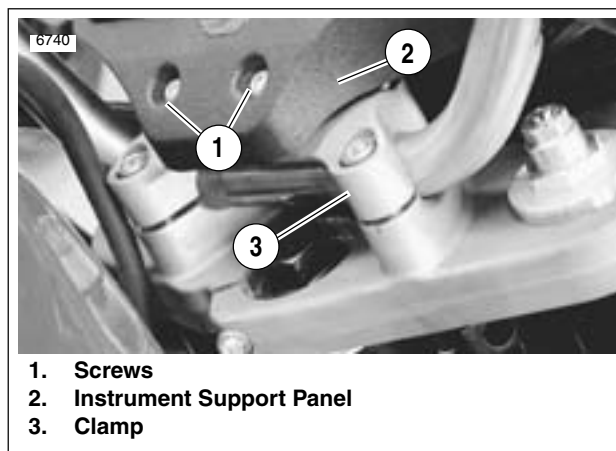
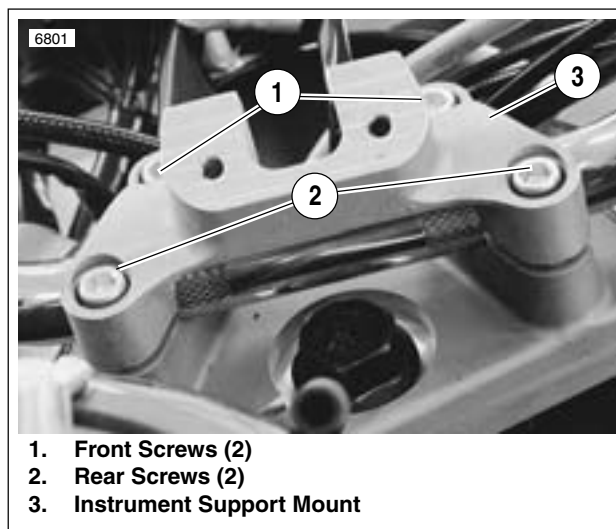
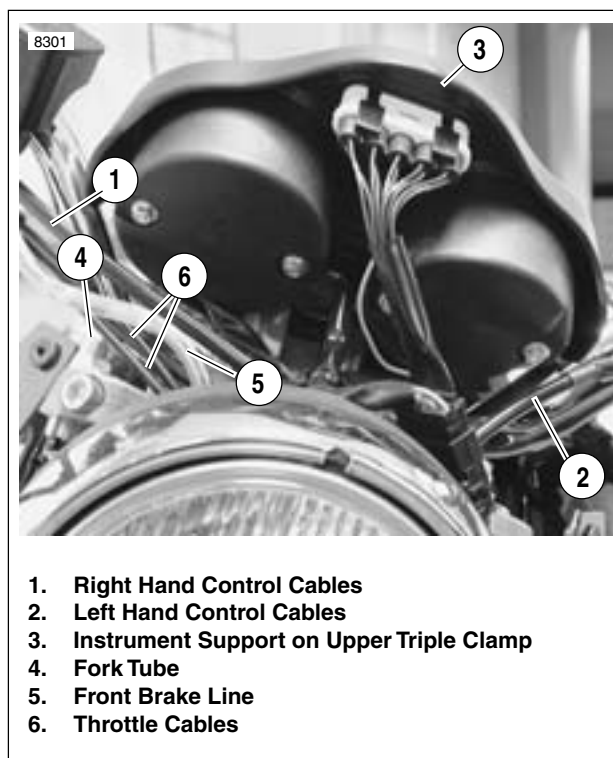

Figure 2-92. Instrument Support, Front
Figure 2-93. Instrument Support Mount
Figure 2-94. Routing Hand Control Wires
- b. See Figure 2-92. Separate instrument support panel (2) from handlebar clamp (3) by removing two screws (1). Pull dash panel upward, but do not damage wiring.
2. See Figure 2-93. Remove two front screws (1) and two rear screws (2) to separate instrument support mount (3) from upper triple clamp.
1. See Figure 2-93. Fasten instrument support and handlebars to support using two front screws (1) and two rear screws (2). Do not tighten.
- b. First tighten the two front screws (1) to 10-12 ft-lbs (14-16 Nm).
2. See Figure 2-92. Attach instrument support panel (2) to handlebar clamp (3).
- a. Apply LOCTITE THREADLOCKER 243 (blue) to both screws (1).
- b. Align instrument support on handlebar clamp. Install two screws (1).
6. See Figure 2-93. Remove four screws (1, 2) from instrument support (3).
- a. See Figure 2-93. Lift instruments and place handlebars under instrument support. Loosely install four screws (1, 2).
- b. See Figure 2-93. Tighten both front screws (1) to 10-12 ft-lbs (14-16 Nm).
- c. Then tighten both rear screws (2) 10-12 ft-lbs (14-16 Nm).
- a. See Figure 2-94. Route right hand control wires (1) in front of handlebar and fork tube (4).
- b. Route left hand control wires (2) in front of handlebar and fork tube (4).